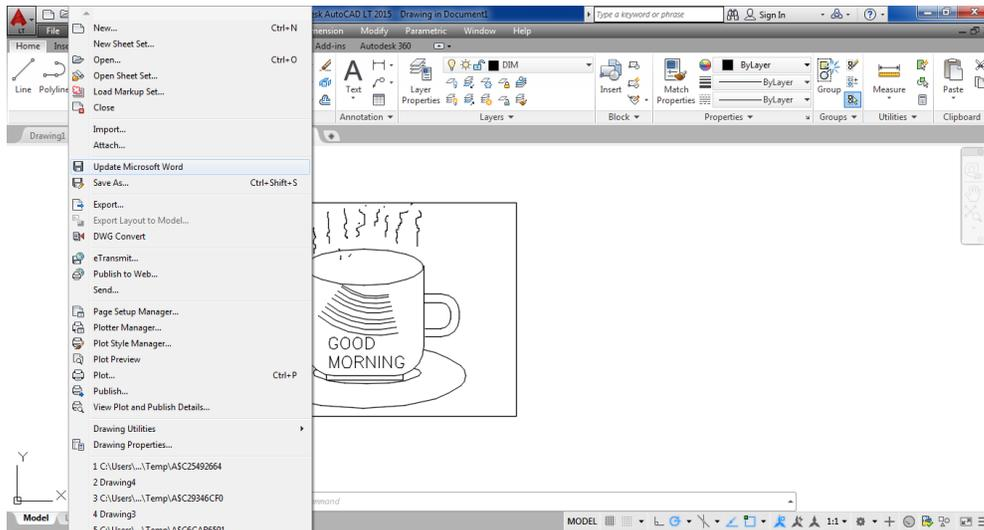

Figure 20-21 Updating the AutoCAD LT drawing in Microsoft Word
9. After you have finished modifying your drawing, choose **File > Update Microsoft Word** from the menu bar in the server (AutoCAD LT), refer to Figure 20-21. To display the menu bar, click on the down arrow in the **Quick Access Toolbar** and select the **Show Menu Bar**. AutoCAD LT automatically updates the drawing in MS Word (container application). Now, you can exit this temporary file in AutoCAD LT.